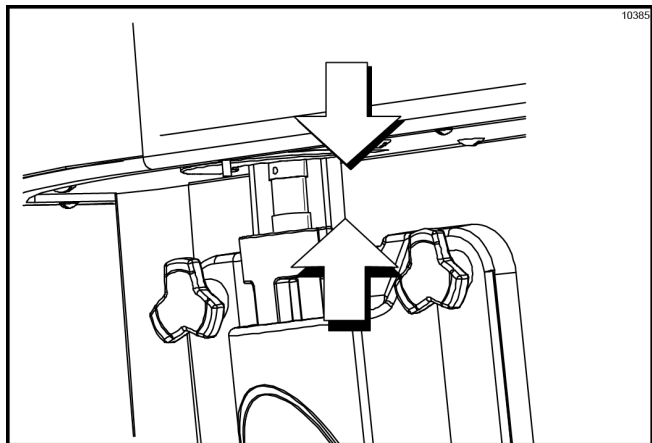

Figure-125
16. Raise the locking collar of the spinner coupling and insert the spinner shaft into the cavity of the coupling until the locking collar can drop into the locked position. (See Figure-125.)